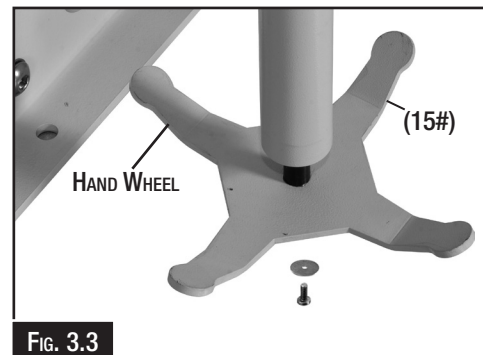

FIG. 3.3
1. Attach the hand wheel (15#) onto the squared end of the lower wheel adjustment screw using the M6 x 10mm screw and flat washers. (39#) (Fig. 3.3)